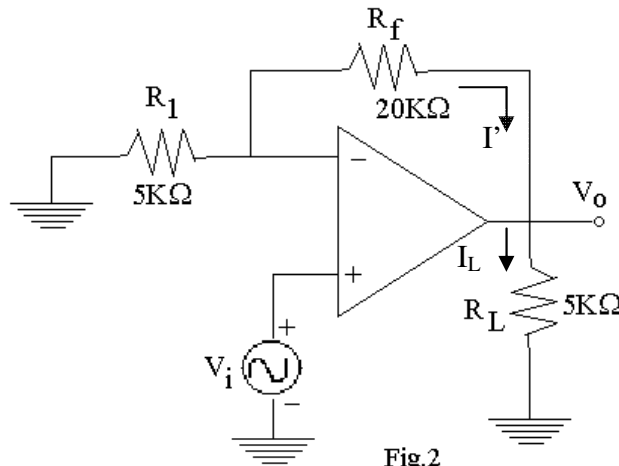

Fig.2
Q.68 In the circuit shown below in Fig.2, calculate